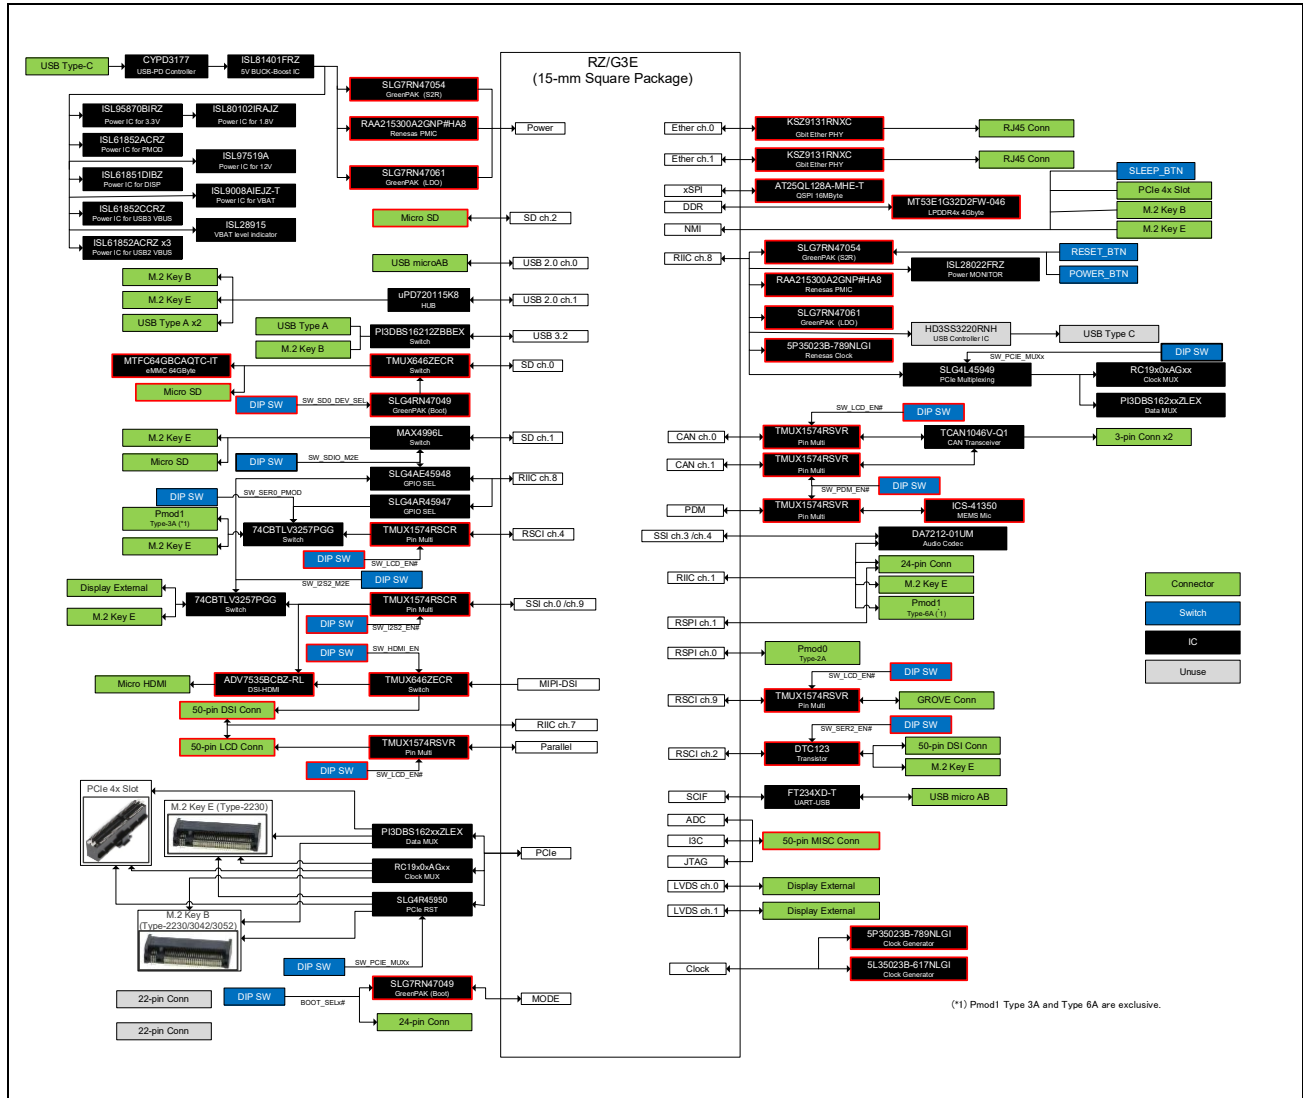

Figure 2.3 G3E SMARC EVK Block Diagram
**Figure 2.3** shows the functional block diagram of the G3E SMARC EVK. ICs, connectors and switches surrounded by red frame indicate functions used on the G3E SMARC Module.